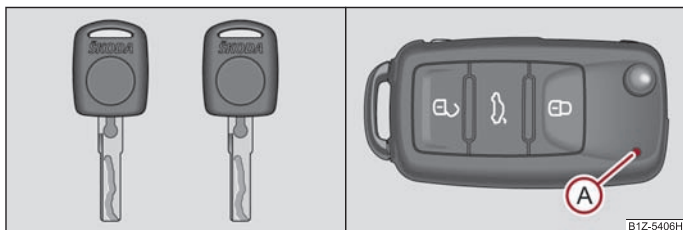
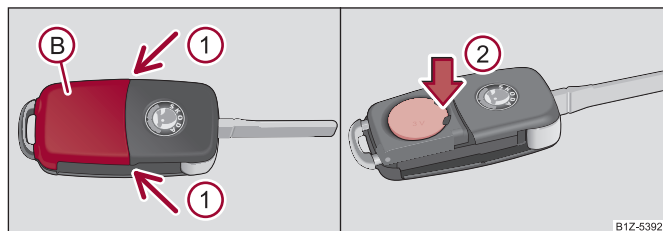

Fig. 21 Set of keys without remote control/set of keys with remote control key
Fig. 22 Remote control key - remove cover/remove battery
Two keys are provided with the vehicle. Depending on the equipment, your vehicle can be equipped with keys without radio remote control ⇒ fig. 21 - left, or with radio remote control\* ⇒ fig. 21 - right.
Each remote control key contains a battery which is housed under the cover **B** ⇒ fig. 22. If the battery is discharged, the red indicator light **A** does not light up after pressing a button on the remote control ⇒ fig. 21. Change the battery as follows:
- Carefully press off the battery cover at the points of the arrows **1** ⇒ fig. 22.
- Remove the discharged battery from the key by pressing the battery downwards at the point of the arrow **2** ⇒ fig. 22.